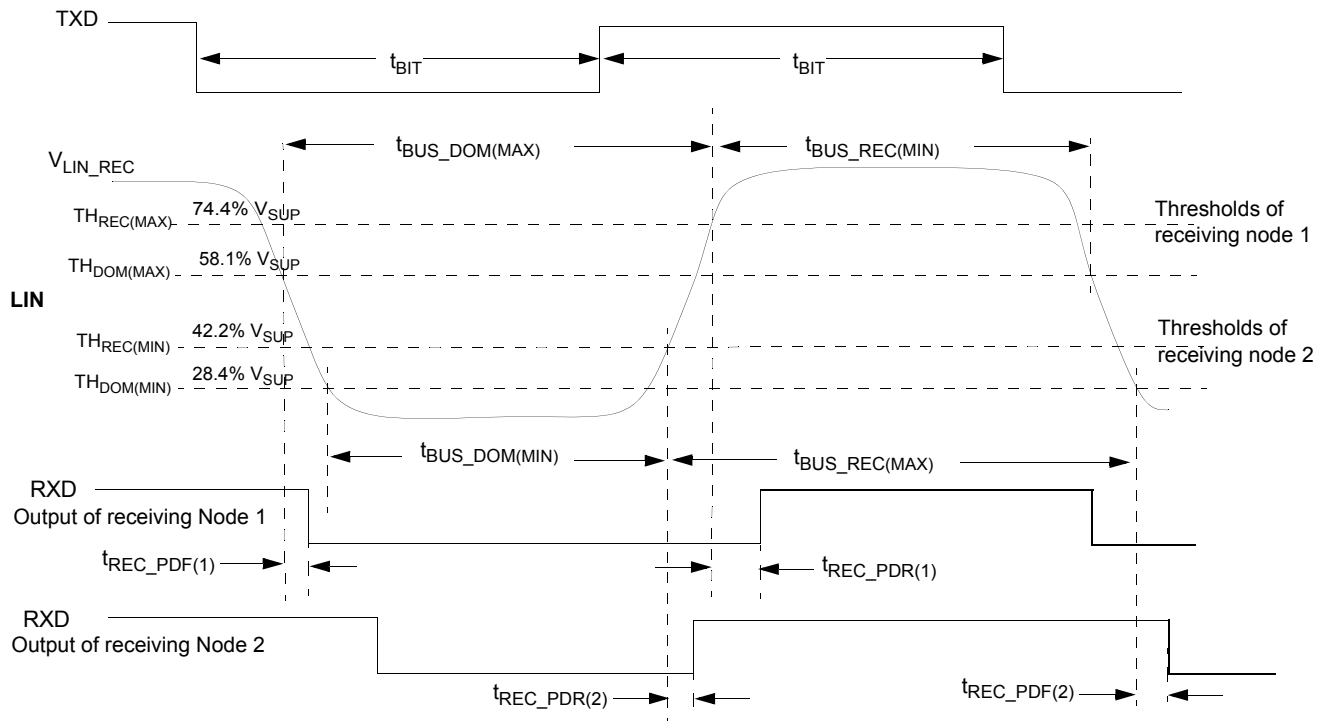

Figure 20. LIN Timing Measurements for Normal Slew Rate
**BUS LOAD  $R_{\text{BUS}}$  AND  $C_{\text{BUS}}$  1.0 NF / 1.0 K $\Omega$ , 6.8 NF / 660  $\Omega$ , 10 NF / 500  $\Omega$ . SEE Figure 20, PAGE 31.**
**$V_{\text{SUP}}$  FROM 7.0 TO 18 V, BUS LOAD  $R_{\text{BUS}}$  AND  $C_{\text{BUS}}$  1.0 NF / 1.0 K $\Omega$ , 6.8 NF / 660  $\Omega$ , 10 NF / 500  $\Omega$ . SEE Figure 20, PAGE 31.**